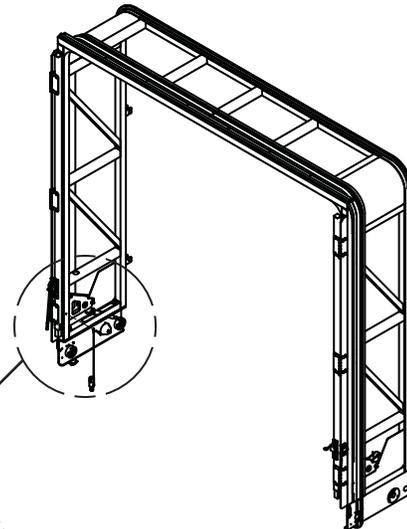

Figure 55
1) See Figure 55 & 56. On the rear bow locate and mark a point on the rear most tube and aligned horizontally with the rear lock shaft. Drill #11 hole thru one wall.